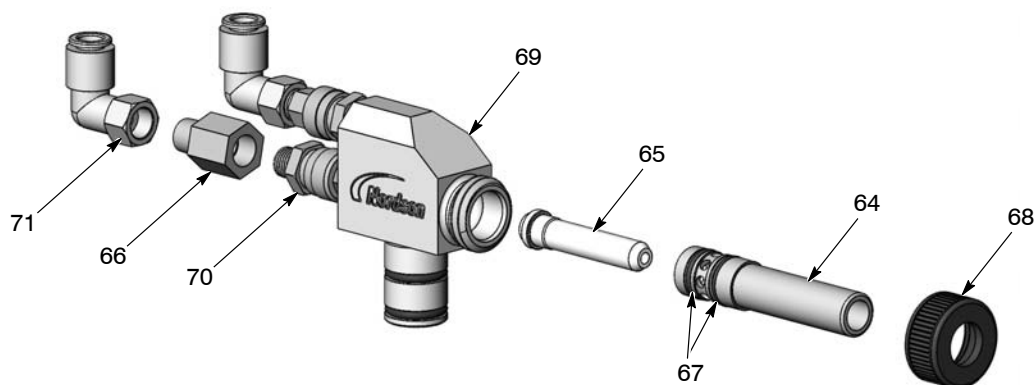

Figure 3 Encore Pump with Pump Throat Kit
1. See Figure 3. Unscrew the pump nut (68), and remove the pump throat and pump throat holder.
2. Place the O-rings (67) provided with the pump throat extension kit onto the new throat holder (64).
3. Take the new can coating pump throat (65) and place it into the new can coating pump throat holder (64).
4. Place the pump throat and holder into the pump body (69).
5. Remove the connector (71) from the quick disconnect coupling (70).
6. Install the new extended adapter (66) onto the quick disconnect coupling (70).
7. Replace the connector (71) onto the adapter (66).